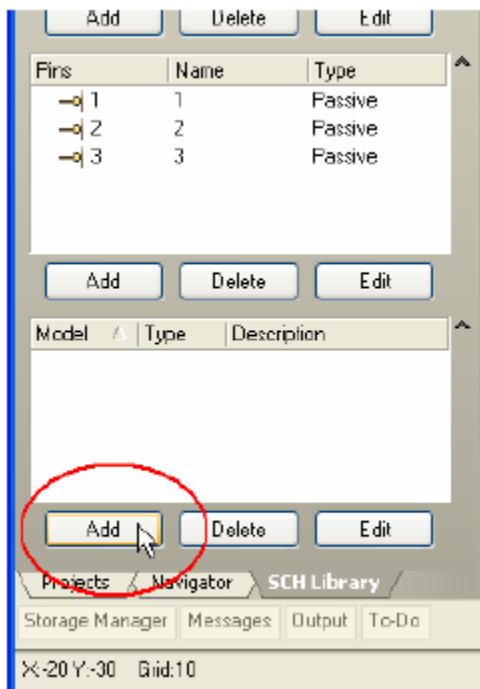
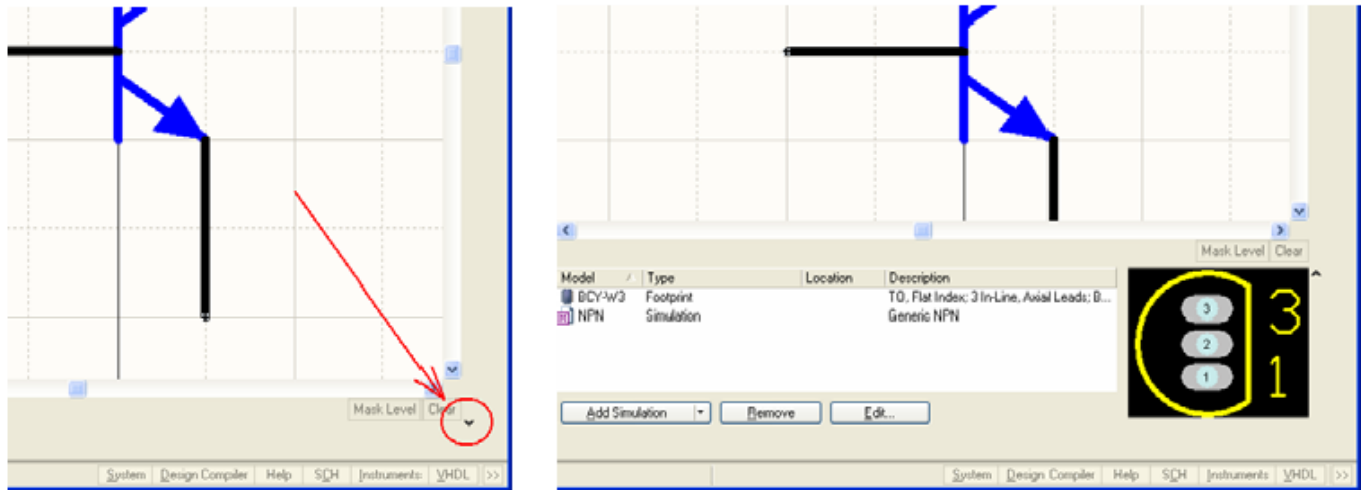

Figure 11. Add models via the Sch Library panel.
Figure 12. Click the arrow to display the Models view at the bottom of the workspace, then use the Add button to select a model-kind and add a new model.
Alternatively, you can add models to the current component via the **SCH Library** panel by clicking on the **Add** button below the **Model** list, as shown in Figure 11, or from the **Model** region of the Schematic Library Editor workspace. Click the arrow located at the lower right side of the workspace to show the Models view, as shown in Figure 12.
1. Display the **Model** view section in the schematic library editor workspace by clicking the upside-down arrow/caret symbol as shown in Figure 12.